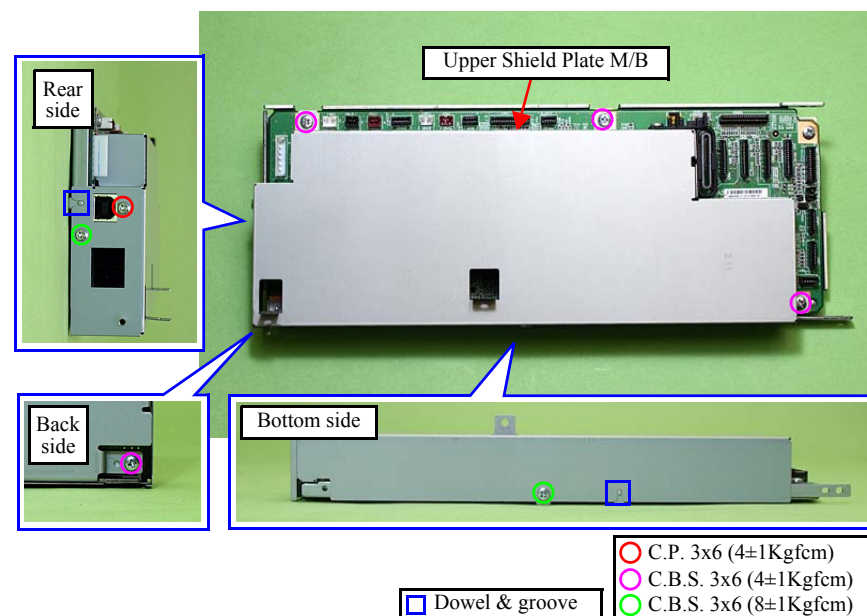

Figure 4-233. Removing the Main Board (2)
- Align the dowels (x2) of the Lower Shield Plate M/B with the grooves (x2) of the Upper Shield Plate M/B. (See Fig. 4-233.)